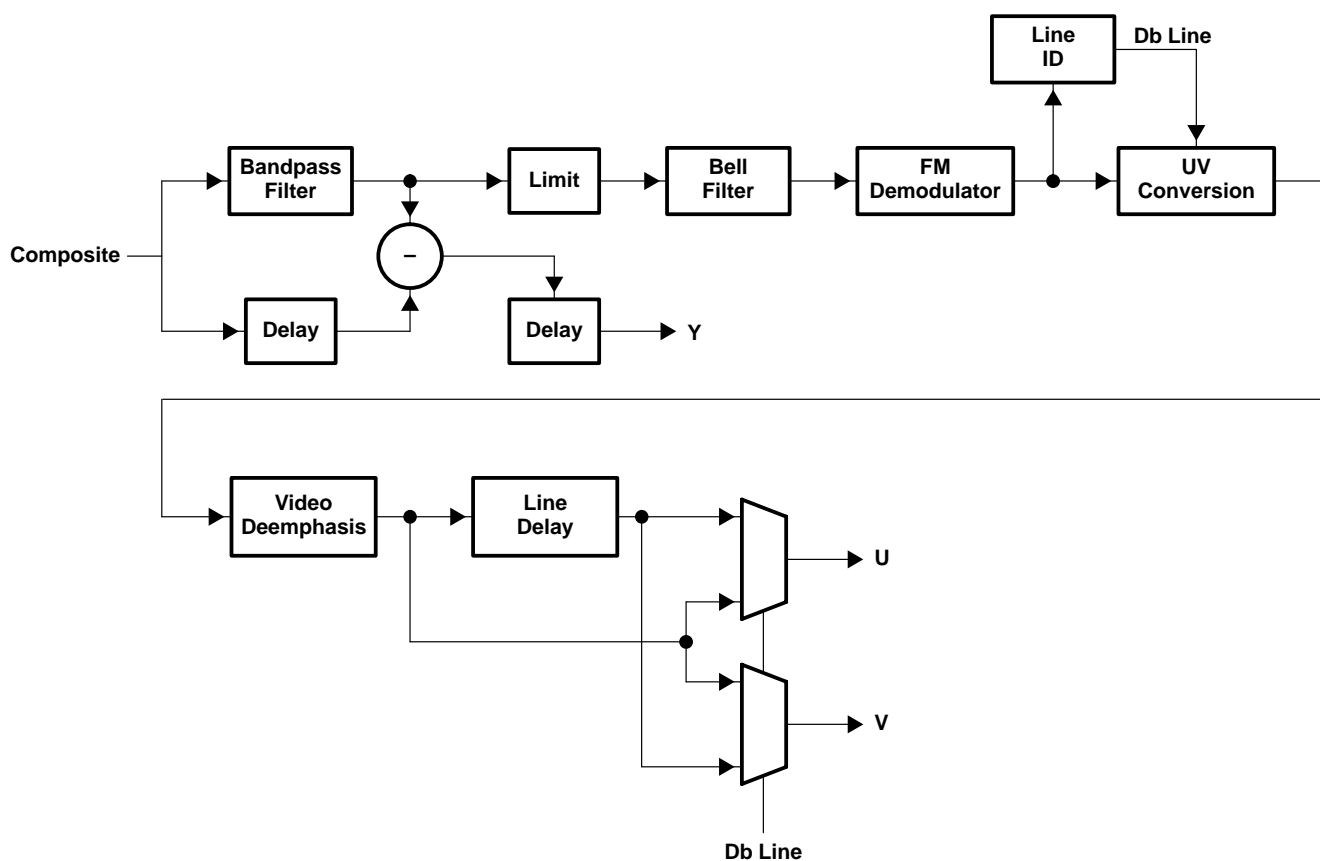

Figure 2–19. SECAM Data Path
The SECAM standard is similar to PAL except for the modulation of color which is frequency modulation (FM) instead of quadrature amplitude modulation (QAM). The color difference signals Db and Dr are transmitted on an alternating line basis using two different color FM carrier frequencies: 4.25 MHz for Db (blue) and 4.40625 MHz for Dr (red). A line reference signal which is transmitted during the back porch interval identifies the appropriate color signal. Figure 2–19 is a block diagram of the processing data path for SECAM which decodes into YUV. Luma Y is generated by filtering the chroma using a bandpass filter and then subtracting the chroma from the composite input. The delay blocks compensate for delays in the filter and the chroma data path. The filtered chroma is then limited and filtered by a bell filter. The bell filter emphasizes (amplifies) the FM carrier which was deemphasized (attenuated) by the encoder prior to transmission. The bell filter output is then fed to the FM demodulator which outputs a scaled version of UV. These scaled outputs are then converted to UV by the UV conversion block. The line ID block monitors the FM demodulator outputs during the back porch interval so that the Db or Dr line can be identified. The video deemphasis block attenuates the higher frequency components of the inputs which were emphasized (amplified) by the encoder in order to improve SNR. Both the bell and the video deemphasis filters have a nonlinear phase characteristic as required by the SECAM standard ITU-R BT.470. A line delay and two multiplexers demultiplex the UV into separate cosited U and V outputs. The video deemphasis block attenuates the higher frequency components of the inputs which were emphasized (amplified) by the encoder in order to improve SNR. Both the bell and the video deemphasis filters have a nonlinear phase characteristic as required by the SECAM standard ITU-R BT.470. A line delay and two multiplexers demultiplex the UV into separate cosited U and V outputs.
The frequency responses for the SECAM filters and FM demodulator characteristic are shown in Figure 2–20 for the ITU-R BT.601 and square pixel sampling rates.